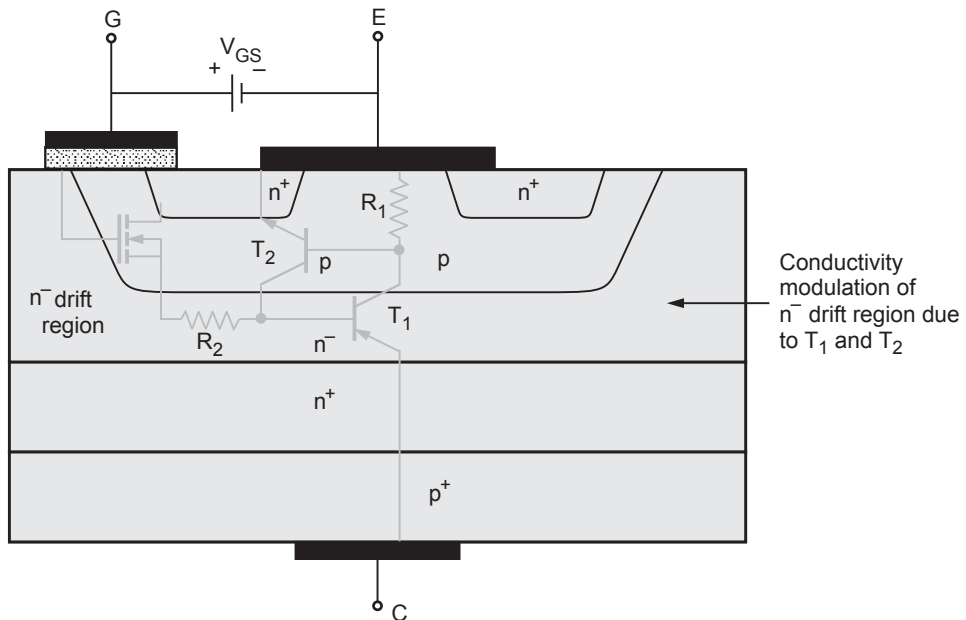
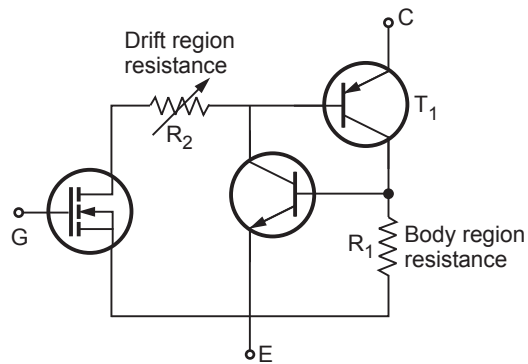

Fig. 1.6.4 Structure of IGBT
Fig. 1.6.5 Equivalent circuit of IGBT
Now let us see how p^+ injecting layer makes the operation different than MOSFET. Fig. 1.6.4 shows the structure of IGBT showing how internal MOSFETs and transistors are formed. The MOSFET is formed with input gate, emitter as source and n^- drift region as drain. The two transistors T_1 and T_2 are formed as shown. The holes injected by the p^+ injecting layer go to the n^- drift region. This n^- drift region is base of T_1 and collector of T_2 . The holes in the n^- drift region further go to the p-type body region, which is connected to the emitter. The electrons from n^+ region (which is emitter) pass through the transistor T_2 and further in the n^- drift region. Thus holes and electrons are injected in large amounts in n^- drift region. This reduces the resistance of the n^- drift region. This is called *conductivity modulation* of n^- drift region. Note that such conductivity modulation does not exist in MOSFET. The connection of T_1 and T_2 is such that large amount of hole/electrons are injected in n^- drift region. The action of T_1 and T_2 is like SCR which is regenerative. The gate serves as trigger for T_1 through internally formed MOSFET. Fig. 1.6.5 shows the equivalent circuit. In this figure observe that when gate is applied ($V_{GS} > V_{GS(th)}$), the internal equivalent MOSFET turns on. This gives base drive to T_1 . Hence T_1 starts conducting. The collector of T_1 is base of T_2 . Therefore T_2 also turns on. The collector of T_2 is base of T_1 . Thus the regenerative loop begins and large number of carriers are injected in n^- drift region. This reduces the on-state loss of the IGBT just like BJT. This happens due to conductivity modulation of n^- drift region.
- **Causes of latchup :** The current in p-type body region flows vertically as well as laterally. In equivalent circuit of Fig. 1.6.5 observe that the lateral component of current flows through the body region resistance R_1 . Therefore the drop across this body region resistance is sufficient to turn-on npn transistor T_2 . Therefore pnp transistor T_1 is also turned on and regeneration takes place. Under this situation gate has no control over the current flow. Thus IGBT remains in ON condition even if gate drive is removed.
In Fig. 1.6.4 observe that various layers of IGBT form internal parasitic thyristor. i.e. ($p^+ - n^+ - n^- - p - n^+$). The body-source short avoids possible turn-on of this parasitic